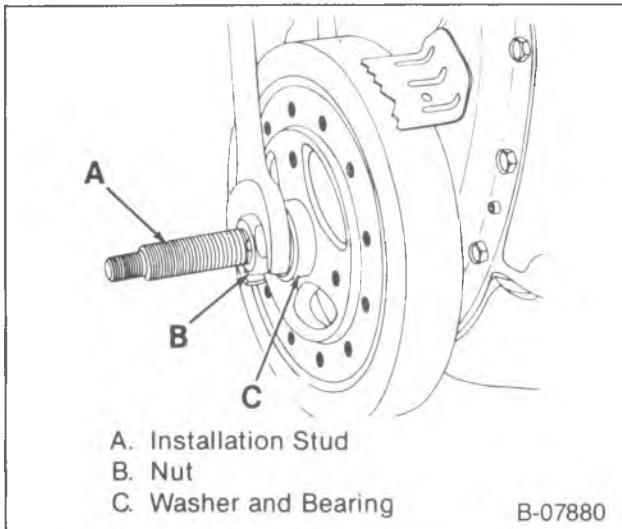

Figure 61—Installing the Torsional Damper
→← Install or Connect (Figure 61)
2. Stud (item A, figure 61) to the crankshaft. Thread the stud fully into the tapped hole in the crankshaft.
4. Bearing, washer and nut (figure 61).